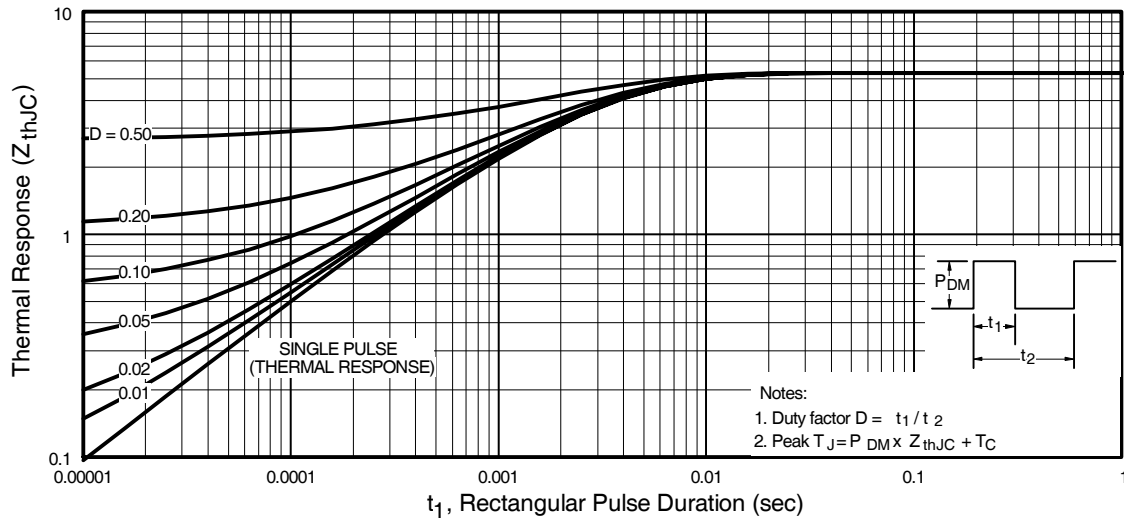

Fig 11. Maximum Effective Transient Thermal Impedance, Junction-to-Case
- ① Repetitive rating; pulse width limited by max. junction temperature. (See fig. 11)
- ② Starting $T_J = 25^\circ\text{C}$, $L = 1.96\text{mH}$